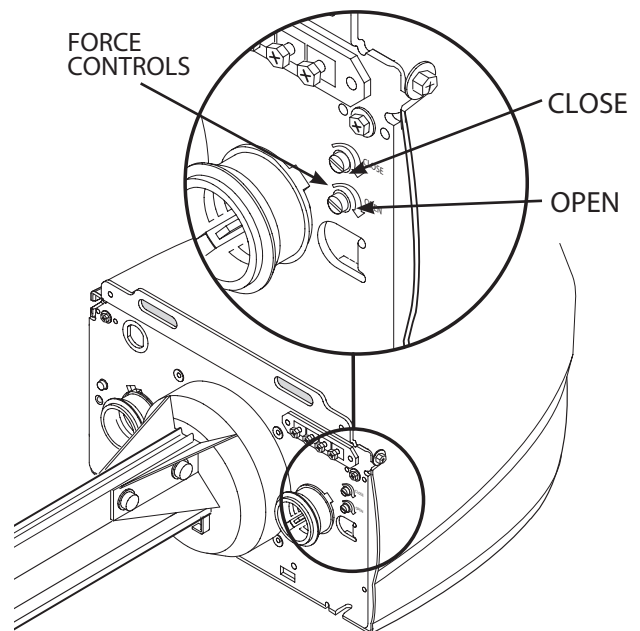

Figure MA-1 Making Force Adjustments
- On front panel of Power Head find adjusting screw marked “CLOSE” (**Figure MA-1**).
- On front panel of Power Head find adjusting screw marked “OPEN” (**Figure MA-1**).